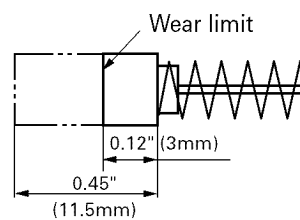

Fig. 14
5. Inspecting the carbon brushes (Fig. 14)